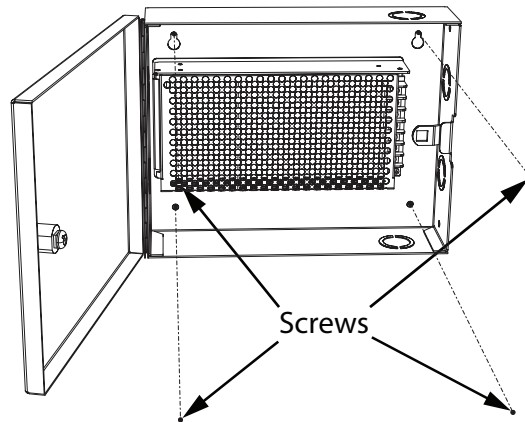

Figure 6: Power Supply Enclosure
2. Using the power supply enclosure as a template, mark the back mounting hole locations as indicated in Figure 6. Ensure that at least one side is over a wall stud.